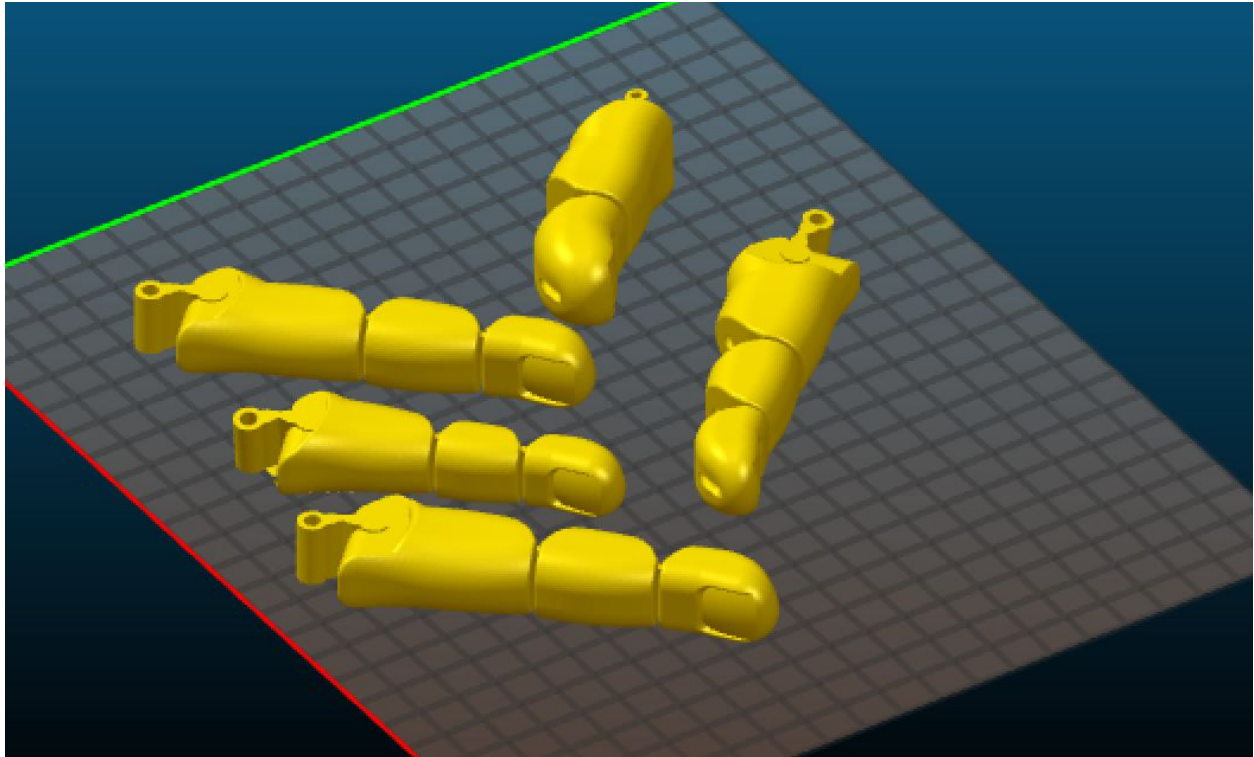

Fig.5: Finger Orientation
- Please orient the fingers so that the flat side is touching the print surface as seen below (Fig.5) and (Fig.6)